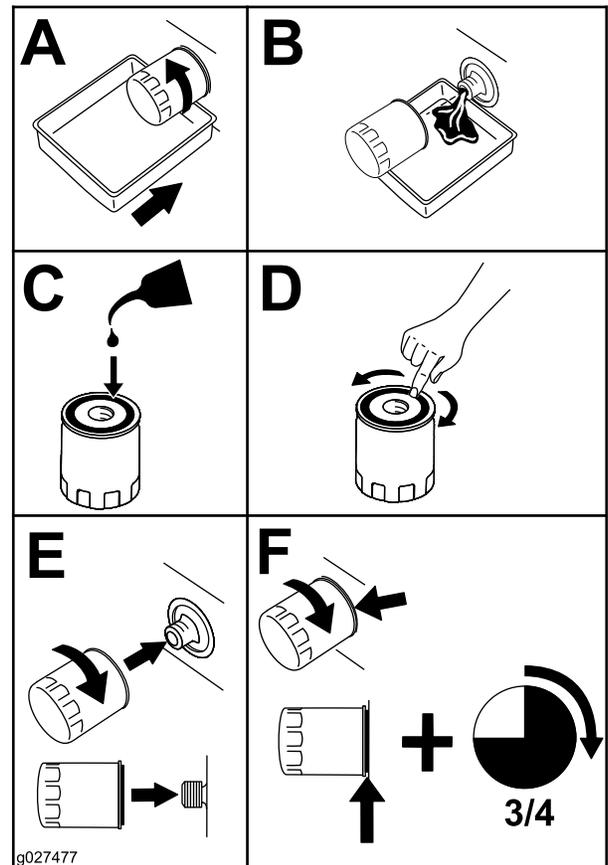

Figure 55
- Change the engine-oil filter (Figure 55).